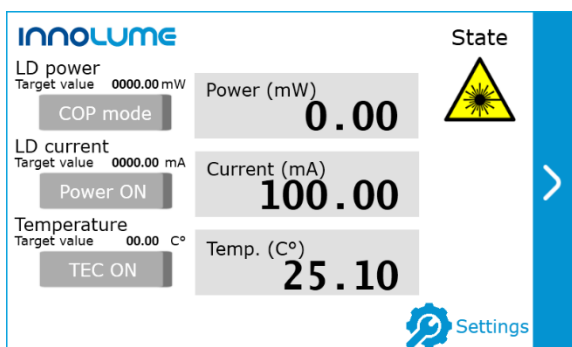

Figure 7 – Emission on state
11. Tap on “Power ON” button to turn on the laser diode emission. The button will light up green, a laser light icon will appear in the state column on the right side of the screen (fig. 7). The LD current target value is displayed above the button; the LD current value is displayed to the right of the button. The upper window displays the value of the optical power in accordance with